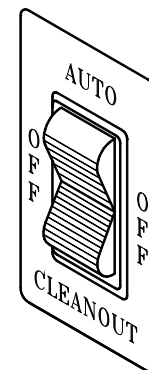

Fig. 2
2. Set each control switch (Fig. 2) to the “**CLEANOUT**” position momentarily to verify the direction of rotation of the dasher. It should rotate counter-clockwise.